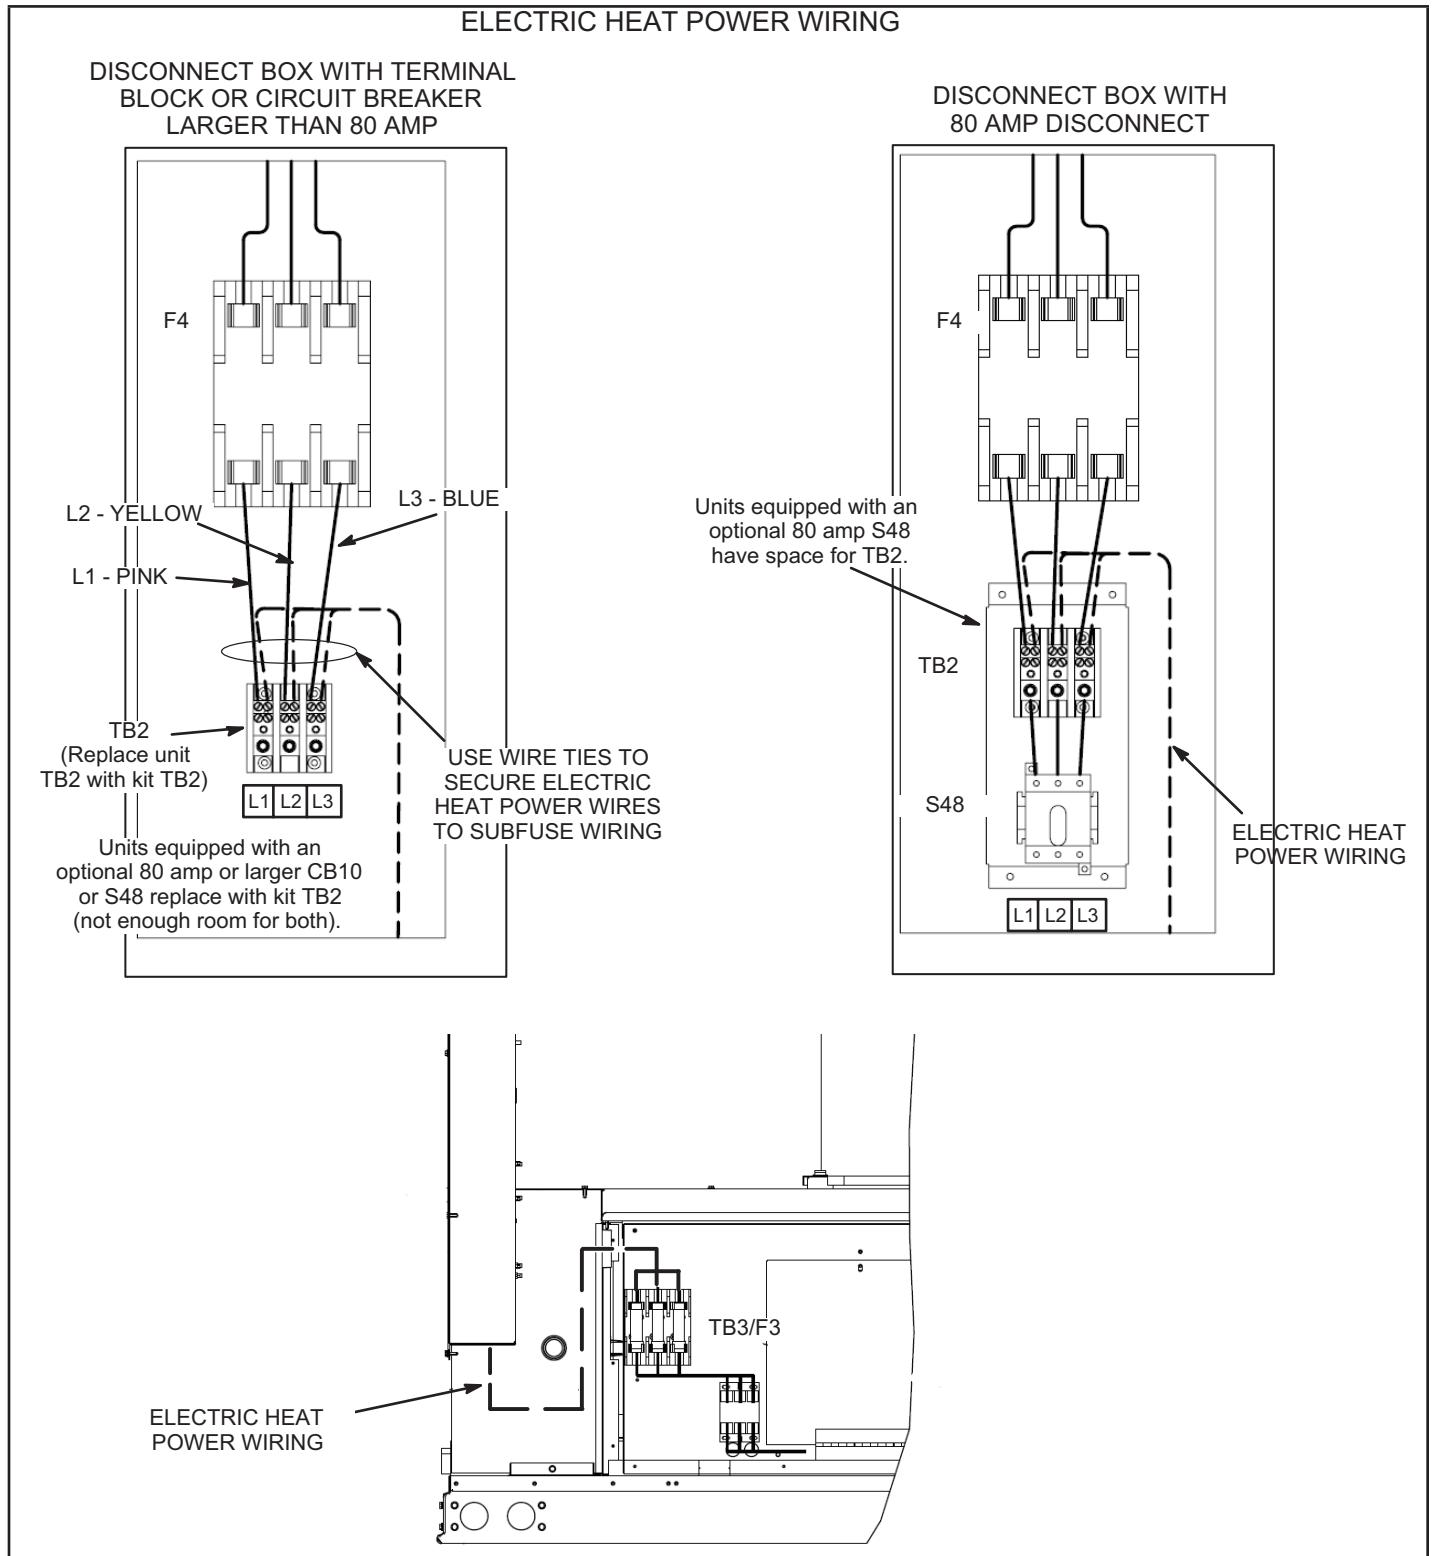
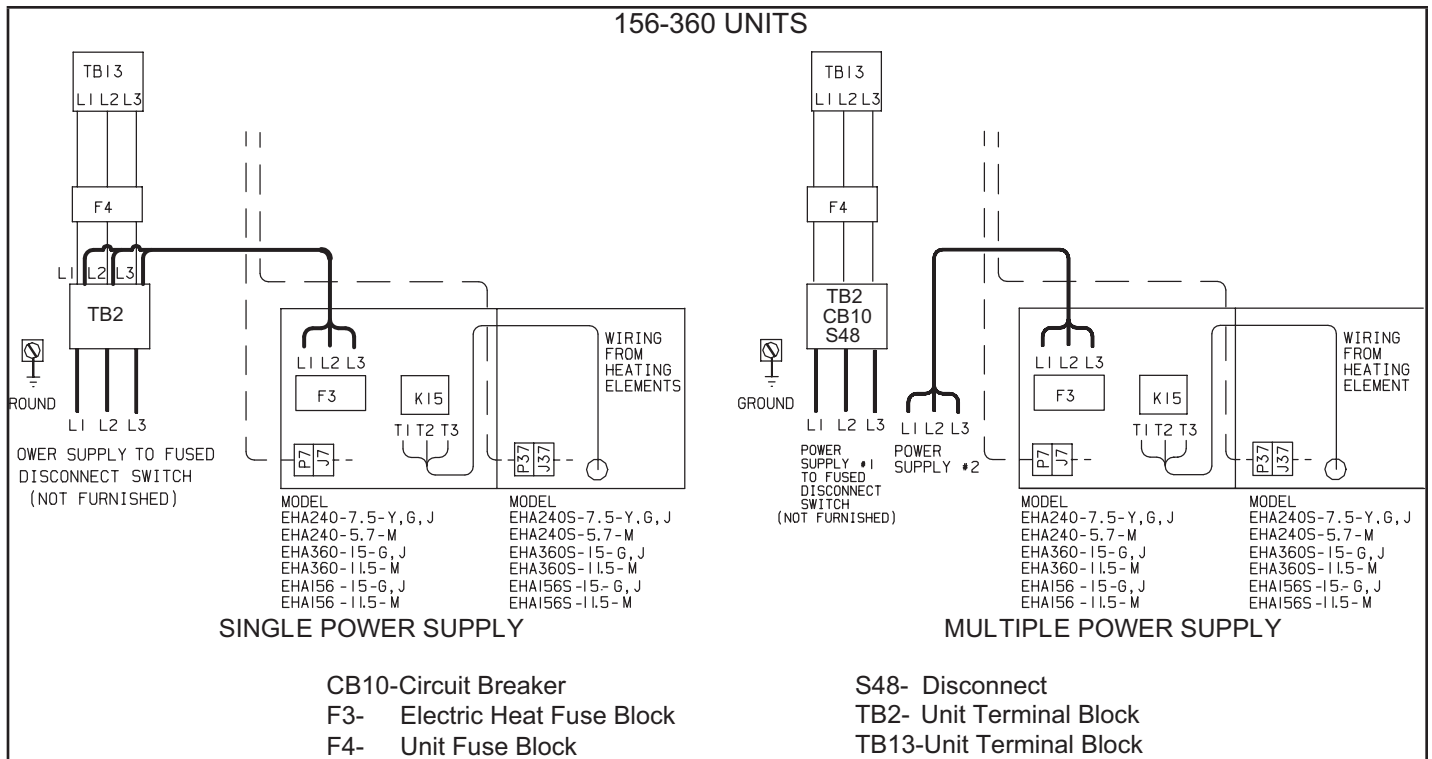

FIGURE 5
FIGURE 6
- 2 - Connect electric heat power wiring to unit terminal block TB2 as shown in FIGURE 5. Also see FIGURE 6 through FIGURE 8 depending on the options included on the electric heat assembly.